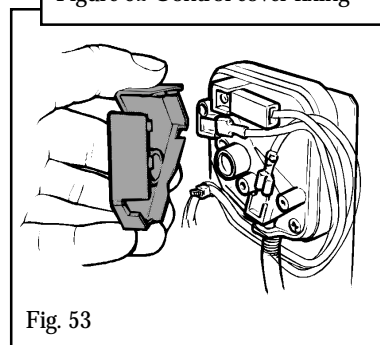

Fig. 53
16.10.4 Remove the cover from the air pressure switch (see figure 53)
16.11.3 Remove the cover from the air pressure switch (see figure 53)